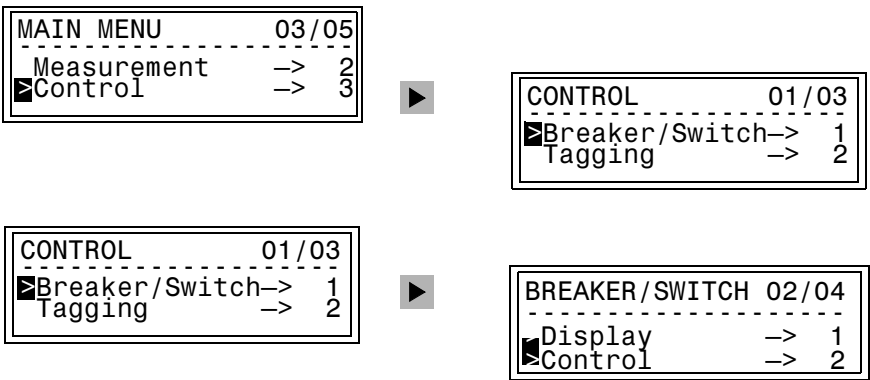

Figure 4-9 On-site Control Using the HMI
- **Main menu** → **Control** → **Breaker/Switch** → **Control** → Equipment and intended direction **ON** or **OFF** (Figure 4-9), or